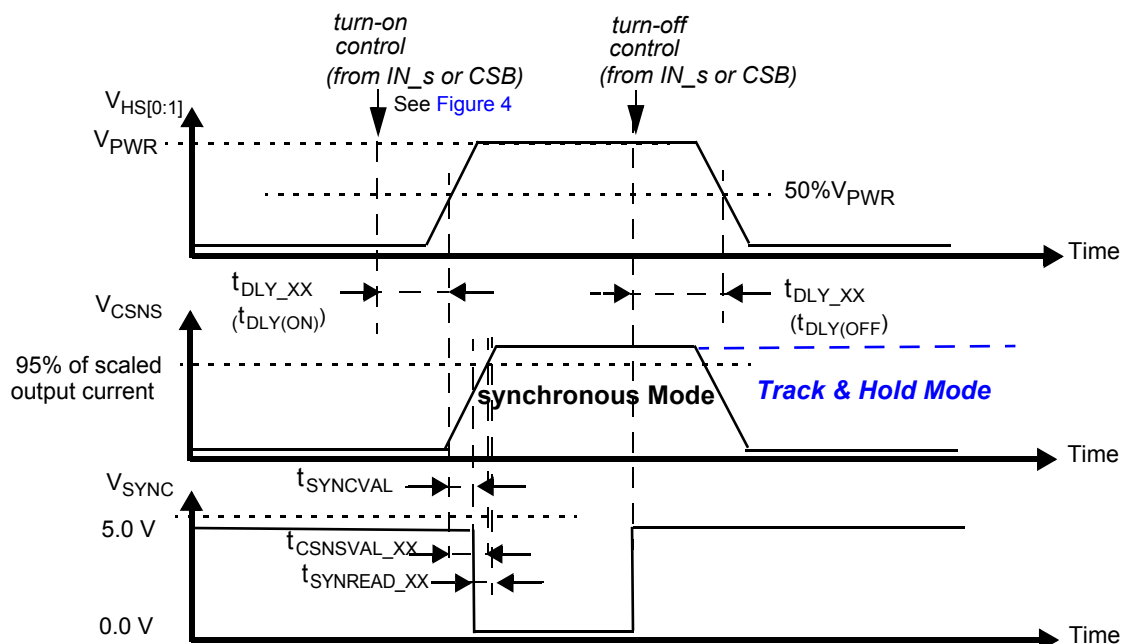

Figure 9. Synchronous & Track-and-Hold Current Sensing Modes: Associated Delay & Settling Times
29. Time required to switch off the channel after detection of overtemperature (OT), overcurrent (OC), SC or UV error (time measured between start of the negative edge on the FSB pin and the falling edge on the output voltage until $V(\text{HS}[0:1]) = 50\%$ of V_{PWR}).
30. Settling time ($= t_{\text{CSNSVAL_XX}}$), SYNC output signal delay ($= t_{\text{SYNCVAL_XX}}$) and Read-out delay ($= t_{\text{SYNREAD_XX}}$) are defined for a stepped load current ($100\text{ mA} < I(\text{LOAD}) < I_{\text{OCLX A FOR CSNS_RATIO_S}} = 1$, AND $300\text{ mA} < I(\text{LOAD}) < I_{\text{OCLX A_0 FOR CSNS_RATIO_S}} = 0$). (see Figure 9 and Output Current Monitoring \(CSNS\))
The CS pin allows independent current monitoring of channel 0 or channel 1 up to the steady-state overcurrent threshold. It can also be used to sense the device temperature. The different functions are selected by setting bits CSNS1_en and CSNS0_en to the appropriate value (Table 23). When the CSNS pin is sensed during switch-off in the (optional) track & hold mode (see Figure 9), it outputs the scaled value of the load current as it was just before turn-Off. When several devices share the same pull-down resistor, the CSNS pins of devices the current of which is not monitored must be tri-stated. This is accomplished by setting CSNS0_en = 0 and CSNS1_en = 0 in the GCR register (Table 10). Settling time ($t_{CSNSVAL_XX}$) is defined as the time between the instant at the middle of the output voltage's rising edge ($HS[0:1] = 50\%$ of V_{PWR}), and the instant at which the voltage on the CSNS-pin has settled to $\pm 5.0\%$ of its final value. Anytime an overcurrent window is active, the CSNS pin is disabled (see Overcurrent Detection on Resistive and Inductive Loads). The current and temperature sensing functions are unavailable in Fail-safe mode and in Normal mode when operating without the V_{DD} supply voltage. In order to generate a voltage output, a pull-down resistor is required ($R(CSNS)=1.0\text{ k}\Omega$ typ. and $470 < R(CSNS) < 10\text{ k}$). When the current sense resistor connected to the CSNS pin is disconnected, the CSNS voltage is clamped to $V_{CL(CSNS)}$. The CSNS pin can source currents up to about 5.6 mA.
To synchronize current sensing with an external process, the SYNC signal can be connected to a digital input of an external MCU. SYNC is asserted logic low when the current sense signal is accurate and ready to be read. The current sense signal on the CSNS pin has the specified accuracy $t_{SYNREAD_XX}$ seconds after the falling edge on the SYNC pin (Figure 9) and remains valid until a rising edge is generated. The rising edge that is generated by the SYNC pin at the turn-OFF instant (internal or external) may also be used to implement synchronization with the external MCU. Parameter $t_{SYNCVAL_XX}$ is defined as the time between the instant at the middle of the output-voltage rising edge ($HS[0:1] = 50\%$ of V_{PWR}), and the instant at which the voltage on the SYNC-pin drops below 0.4 V (V_{SOL}). The SYNC pins of different devices can be connected together to save μ -controller input channels. However, in this configuration, the CSNS function of only one device should be active at a time. Otherwise, the MCU does not determine the origin of the SYNC signal. The SYNC pin is open drain and requires an external pull-up resistor to VDD.